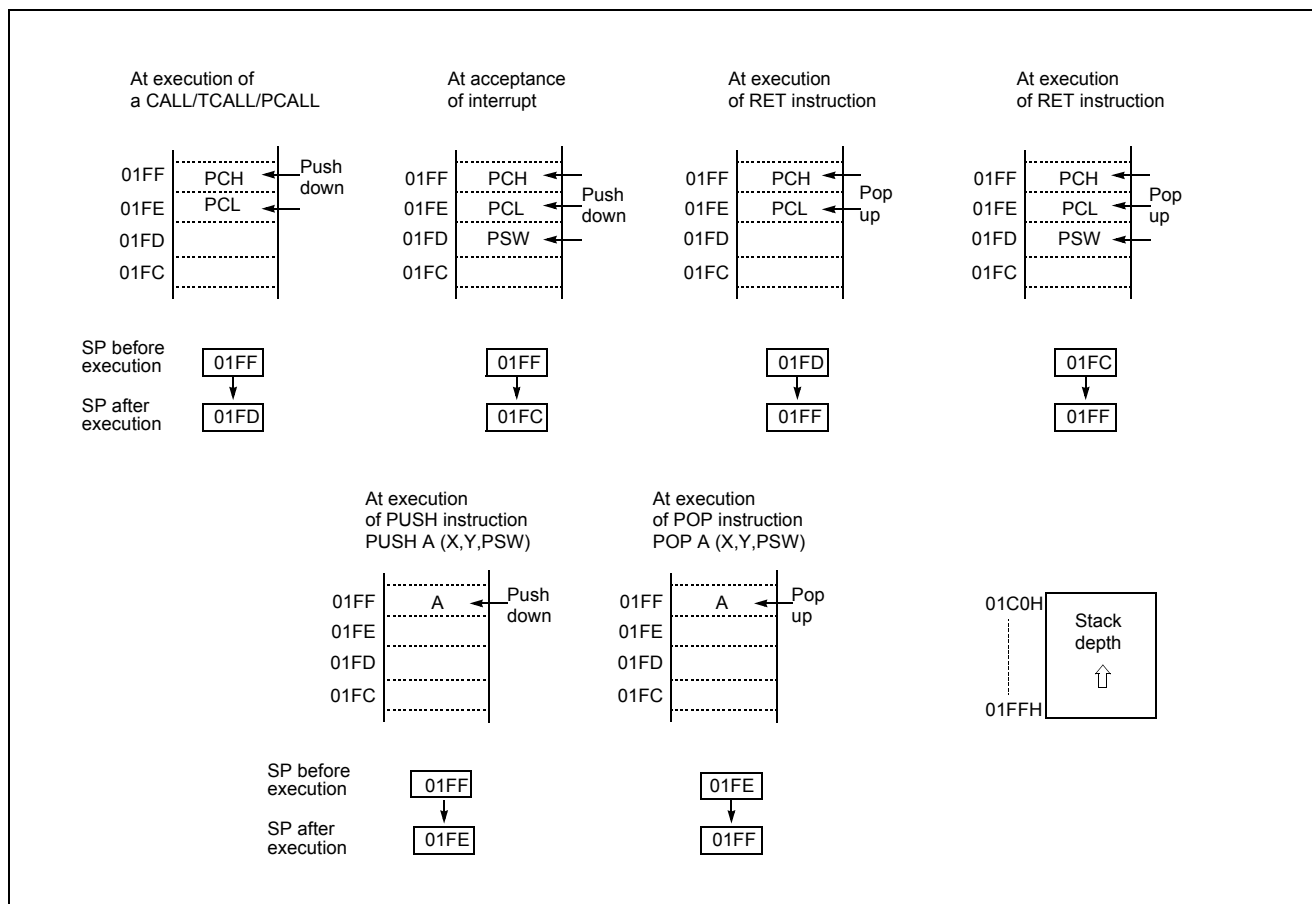

Figure 8-4 Stack Operation
The save/restore locations in the stack are determined by the stack pointed (SP). The SP is automatically decreased after the saving, and increased before the restoring. This means the value of the SP indicates the stack location number for the next save. Refer to Figure 8-4 on page 26.